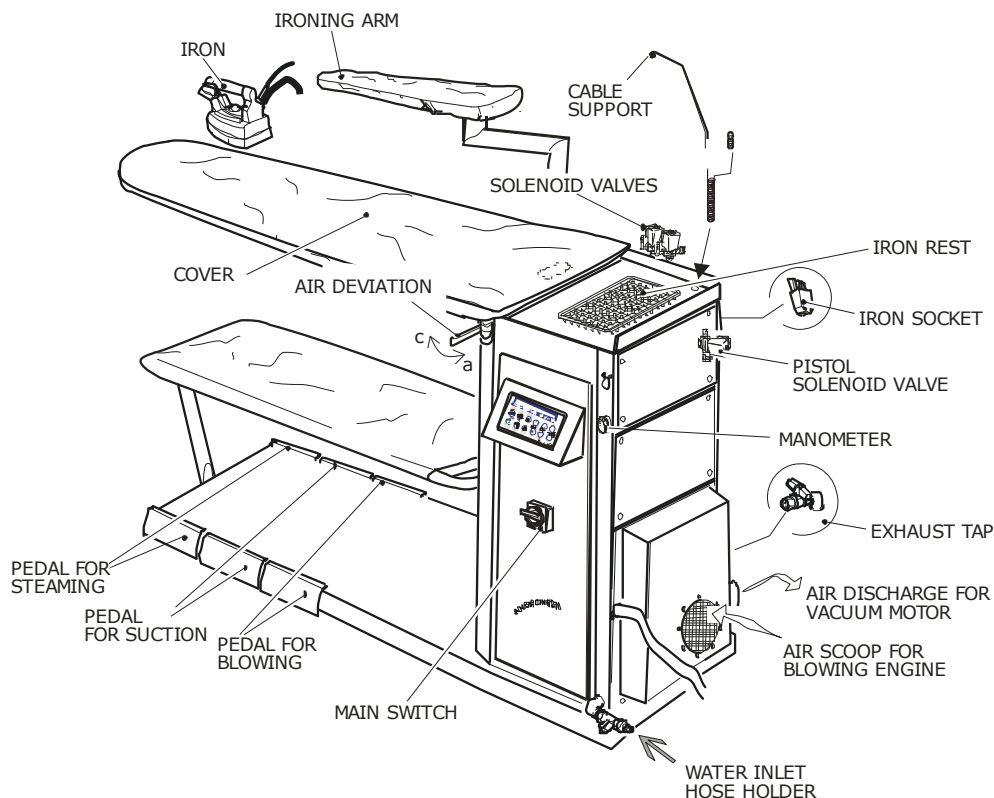
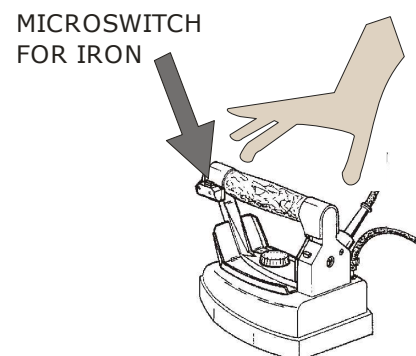

Fig. 1
Fig. 4
1. a water connection (tap with hose holder); ANDROMEDA MAX VAP will be connected to the tap with hose holder named "WATER INLET" (**fig. 1**) by means of a rubber hose which must have a pressure resistance of at least 10 ATM. (diameter of water inlet 8/13 mm) and which must be fixed tightly with 2 hose clamps. **N.B.:** before inserting the rubber hose into ANDROMEDA MAX VAP hose holder, you must exhaust a few litres of water in order to clean the conduit;
2. Remove ANDROMEDA MAX VAP from the box, insert the cable support into the special hole, connect the iron plug and the steam hose, fix the iron cables to the cable support hook and place the iron on the iron rest (**fig. 1**).
At the end of each working day we suggest to always turn the machine off by using the main switch (fig. 1).
1. Connect the rubber hose to the hose holder indicated as WATER INLET placed on ANDROMEDA MAX VAP (**fig. 1**) and turn the water tap on. For ANDROMEDA MAX VAP equipped with water tank, you just have to fill it and connect the machine to the mains supply. **N.B.: make sure there is always water inside the water tank.**
5. Check that the boiler has reached the ideal pressure for ironing (led of boiler icon must be turned off and the manometer must be 5 Bar – **fig. 1**). Seize the iron by the cork handle and press the micro-switch 3 or 4 times (**fig. 4**), so that steam comes out: this operation must be carried out in order to heat up the hoses which take steam to the iron. In this way you prevent also the falling of small drops of water on garments (iron must always be held in such a way as not to harm operator, that is with iron always pointed downwards).
6. To adjust the steam flux you must work on the steam adjustment tap placed on the solenoid valve (**fig. 1: solenoid valve**).
1. Run the iron on the garments, pressing the micro-switch (**fig. 4**) at regular intervals and at the same time pressing the pedal for vacuum (**fig. 1**). In order to dry the garments, we suggest to keep the foot on the pedal for vacuum a bit longer.
2. loss of water from iron (**fig. 4**),
8. cleaning or washing the iron using water (**fig. 4**),
4. replacement of the steam hose (**fig. 4**);